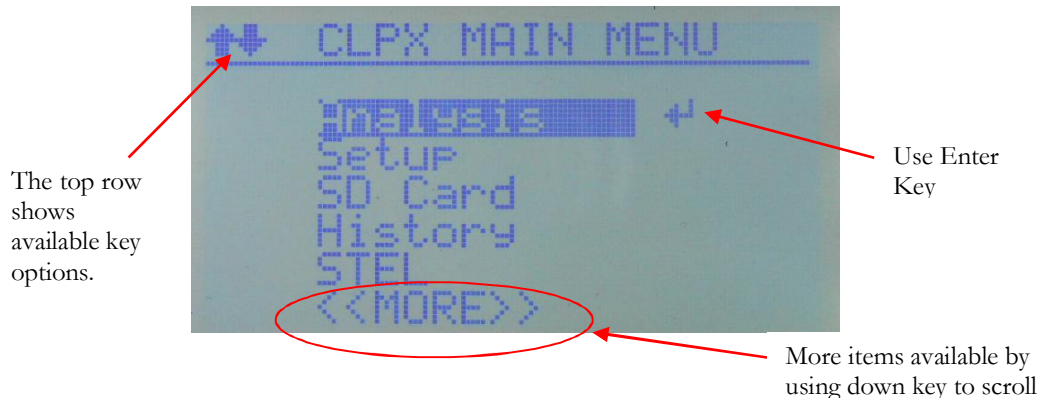

Figure 5.1
The CLPX is controlled using the 5-key keypad located under the display. All of the display screens are accessed through a simple menu system as shown in figure 5.1
- B) Menus – Use the UP/DOWN keys as shown in Figure 5.1 to navigate through the menu items then use the ENTER key to select the highlighted item. From any sub-menu (setup,service, etc) use the LEFT key to return to the previous menu.